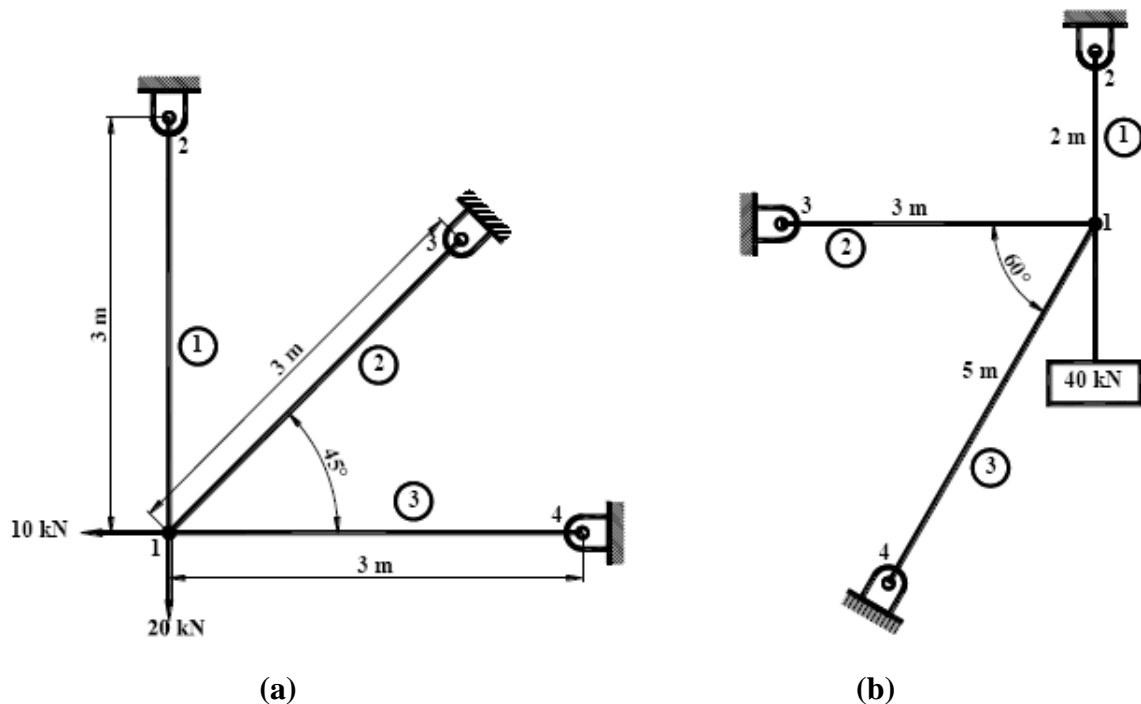

Figure P2.4
4. For the plane trusses shown in **Figure P2.4**, determine the horizontal and vertical displacements of node 1 and the stresses in each element. All the elements have $E = 210$ GPa and $A = 10 \times 10^{-4} \text{ m}^2$.